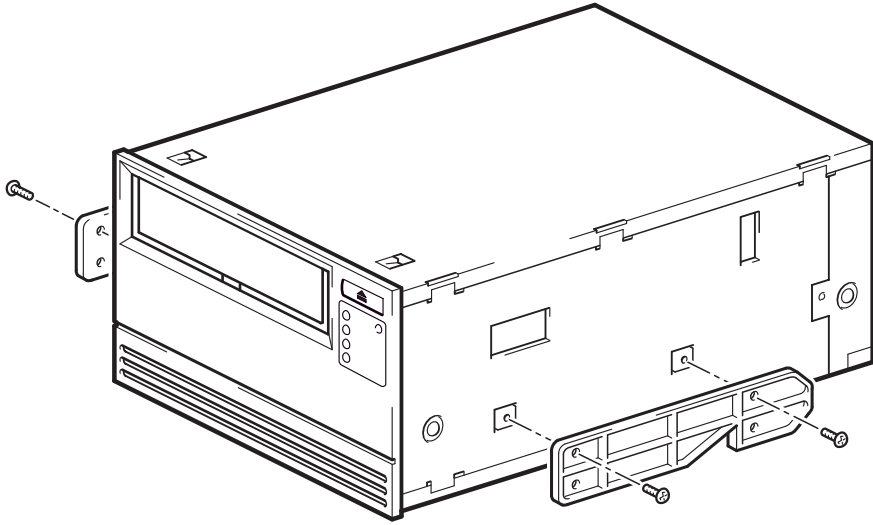

Figure 5a: attaching mounting rails in a typical HP ProLiant 530 or 570 server
- 1 Use a regular Phillips screwdriver to attach the appropriate rails. Use the M3 screws provided with the tape drive, as shown in Figure 5a.